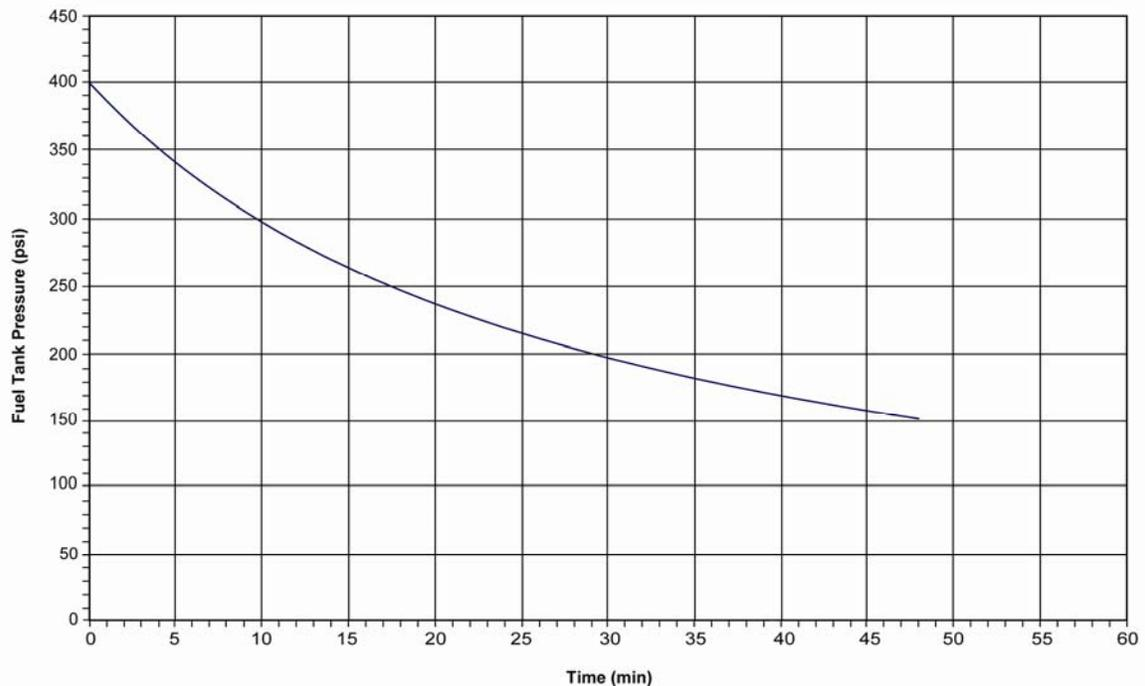

Figure 3: Fuel Tank Pressure vs. Time
- A. Assume you are the MMACS flight controller and your control panel shows the following fuel tank pressure vs. time plot (figure 3).
- I. Complete the table below by calculating the mass of hydrazine in the fuel tank. Use Figure 3 to find pressure at a given time.
- I. Complete the following table using the rate of change formula from question D to calculate the rate of change of hydrazine ($m_{N_2H_4}$). Use Figure 3 and your answers from question A when completing the table.
A. Assume you are the MMACS flight controller and your control panel shows the following Fuel Tank Pressure vs. Time plot (figure 3).